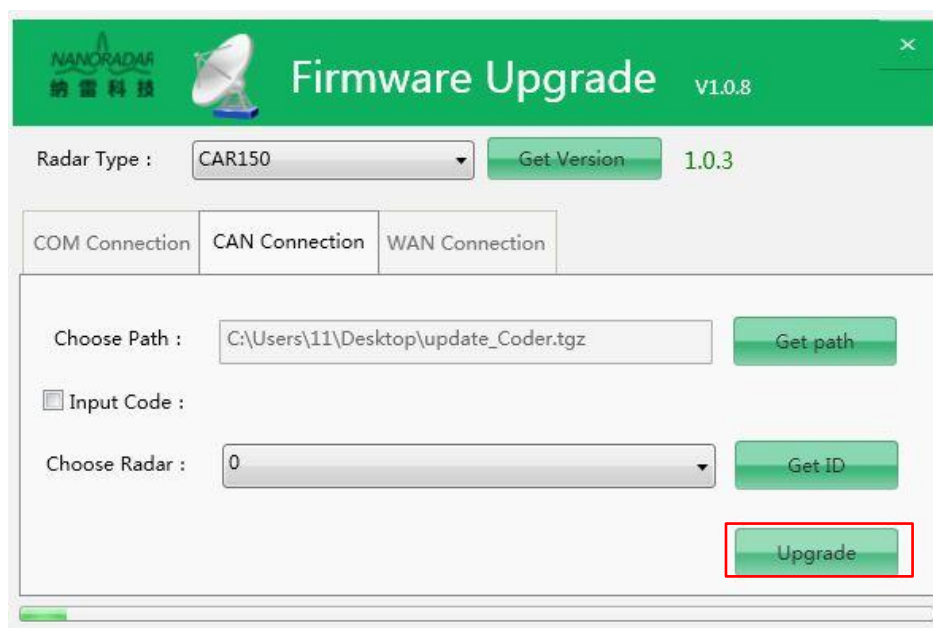

Figure 23 Upgrading
e) Click on the "Upgrade" button, as figure 23.